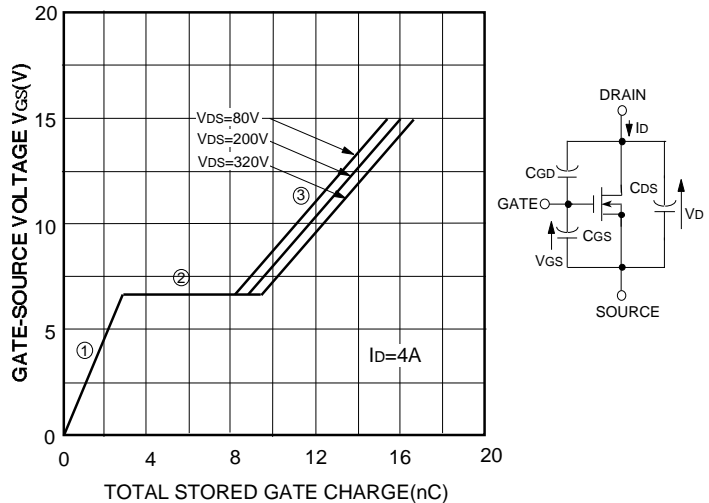

Fig.41 The relation between applied gate-source voltage and stored gate charge
Fig.41 shows the relation between the applied gate voltage and the stored gate charge. In the region ①, the charge is mainly stored at Cgs as the depletion is spread and Cgd is small owing to the off-state of MOS-FIT and the high drain voltage. In the region ②, the Cgd is multiplied by the "mirror effect" as the characteristics of MOS-FIT transfers from off-state to on-state. In the region ③, both the Cgd and Cgs affect to the characteristics as the MOS-FIT is on-state and the drain voltage is low.